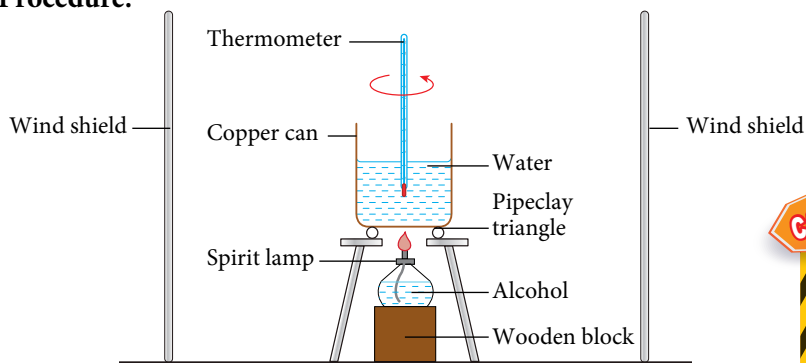

Figure 3.13 Apparatus to determine the heat of combustion
- Place the copper can on a tripod stand as shown in Figure 3.13.